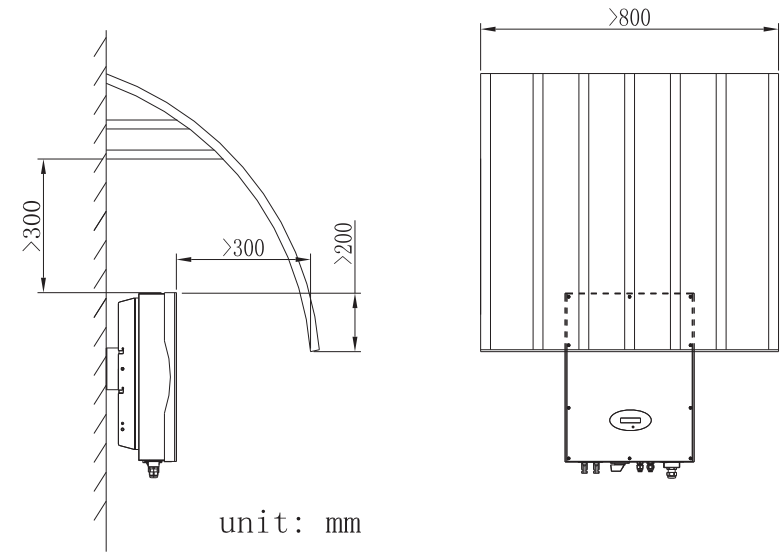

Fig 5.6
- Recommend awning installation, the purpose is to extend the inverter service life and reduce the power derating of the inverter. The dimension of the awning, refer to Fig 5.6.